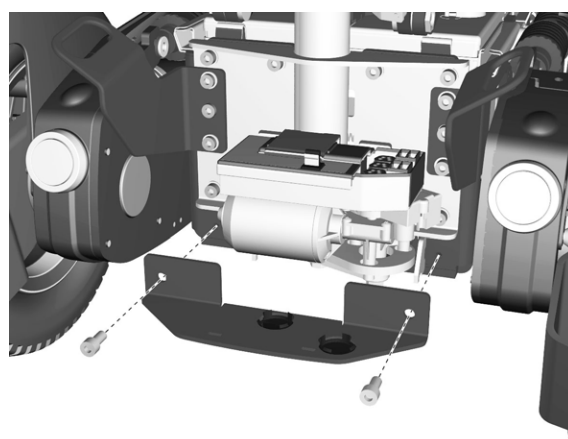

Figure 118. Assemble the protective plate underneath the motor.
10. Assemble the protective plate underneath the motor, it is attached with two screws. See fig. 118.